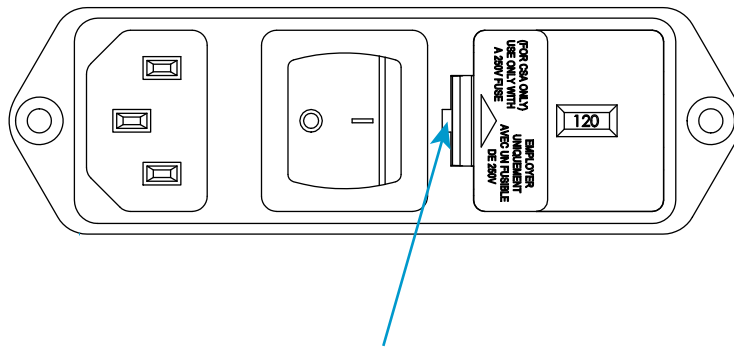

Figure 5. Prying out the fuse holder
1. Ensure that the power switch is in the Off (0) position and disconnect the power cable from the power source. Verify that no LEDs are illuminated on the indicator panel.
2. Insert a small flat-head screwdriver into the slot indicated in Figure 5 on page 39 and pry out the fuse holder.